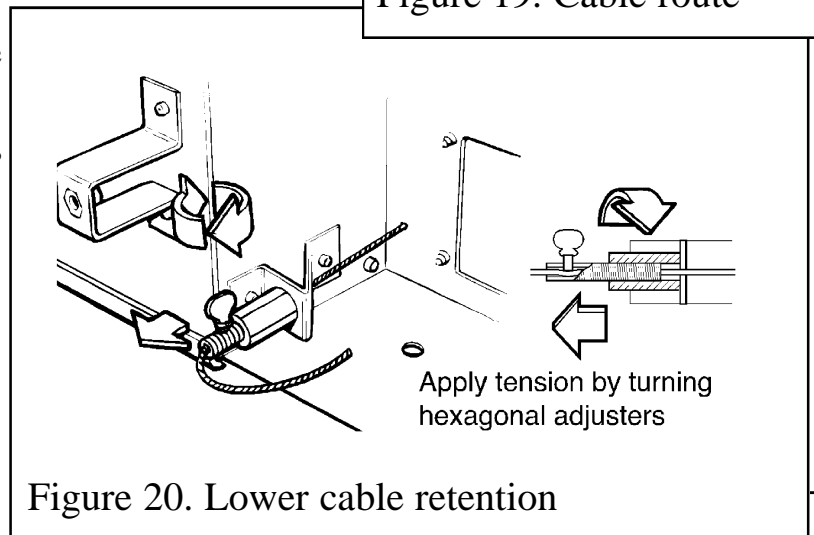

Figure 20. Lower cable retention
9. Pull each cable taut. Push the cable retainers hard up against the "V" brackets. Tighten the screws in the retainers so that they clamp the cables in position. Apply tension to the cables by turning the hexagonal adjusters by hand (See figure 20).